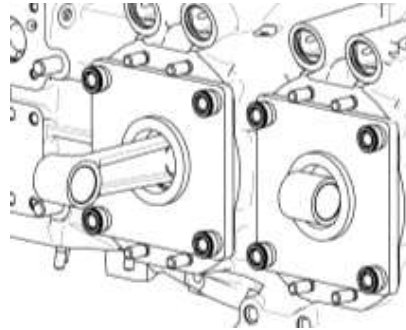

Figure 87
- (11) Install the Torque Hold-Down Plate (ST-222, Figure 87) on the cylinder pads over the thru-studs.